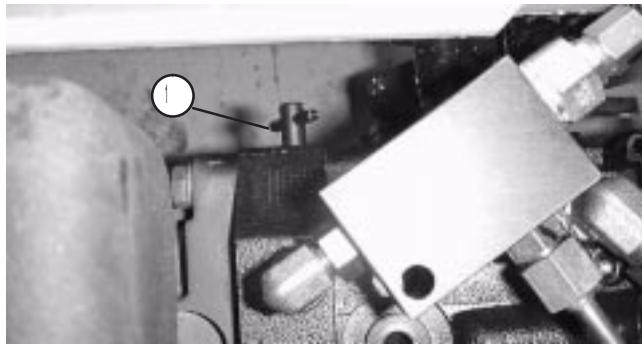

Figure 32
1. Reach under traction unit and rotate bypass valve (Fig. 32) 1/2 to 1 turn counterclockwise. Opening the valve opens an internal passage in the transmission, thereby bypassing transmission oil. Because fluid is bypassed, traction unit can be moved without damaging the transmission.